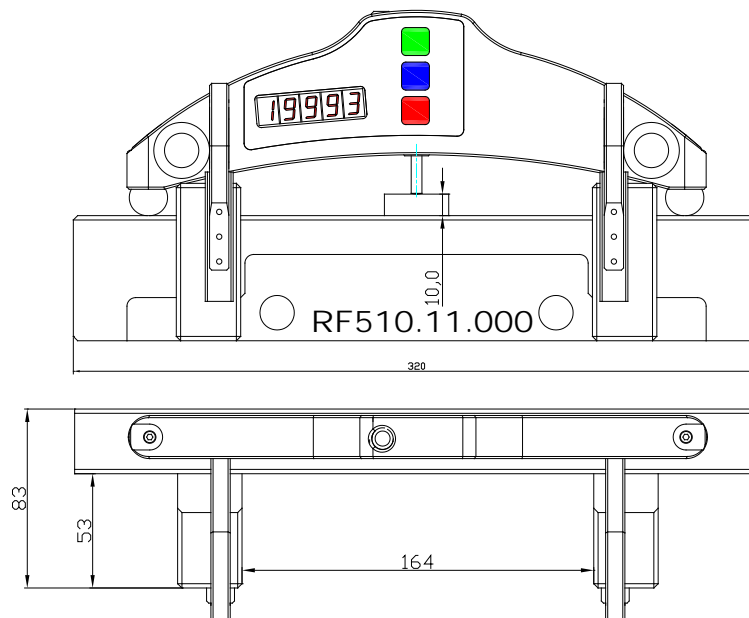

Figure 2
Flat block RF510.11.000 (fig.2)	-
- Calibration plate with the deviation from flatness less then  $\pm 0,5$   $\mu\text{m}$  for 250 mm length (or Flat block RF510.11.000, figure 2);